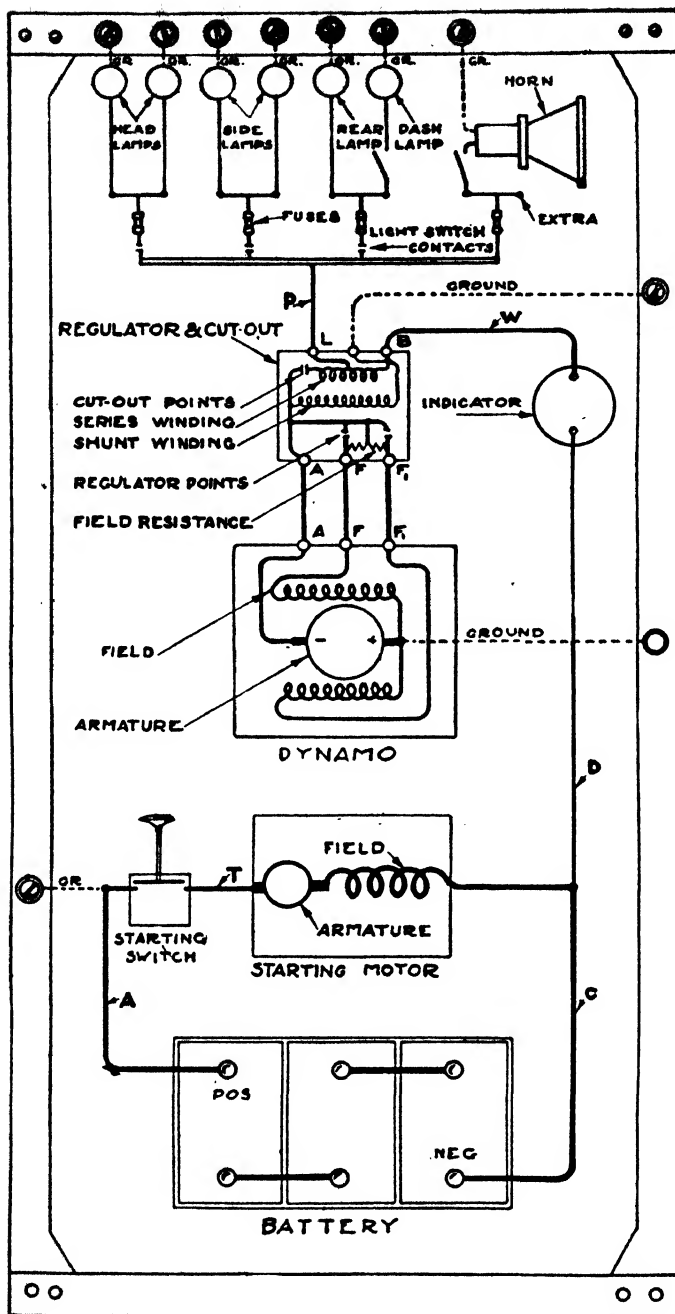

Fig. 287. Wiring Diagram for Gray & Davis Single-Wire System with Grounded Switch
*Grounded-Switch Arrangement.* Fig. 287 is the Gray & Davis wiring diagram of the grounded-switch type. The only difference between this and the other diagram is that the ground connection is taken from the terminal of the cable *A* to the switch instead of from the motor.